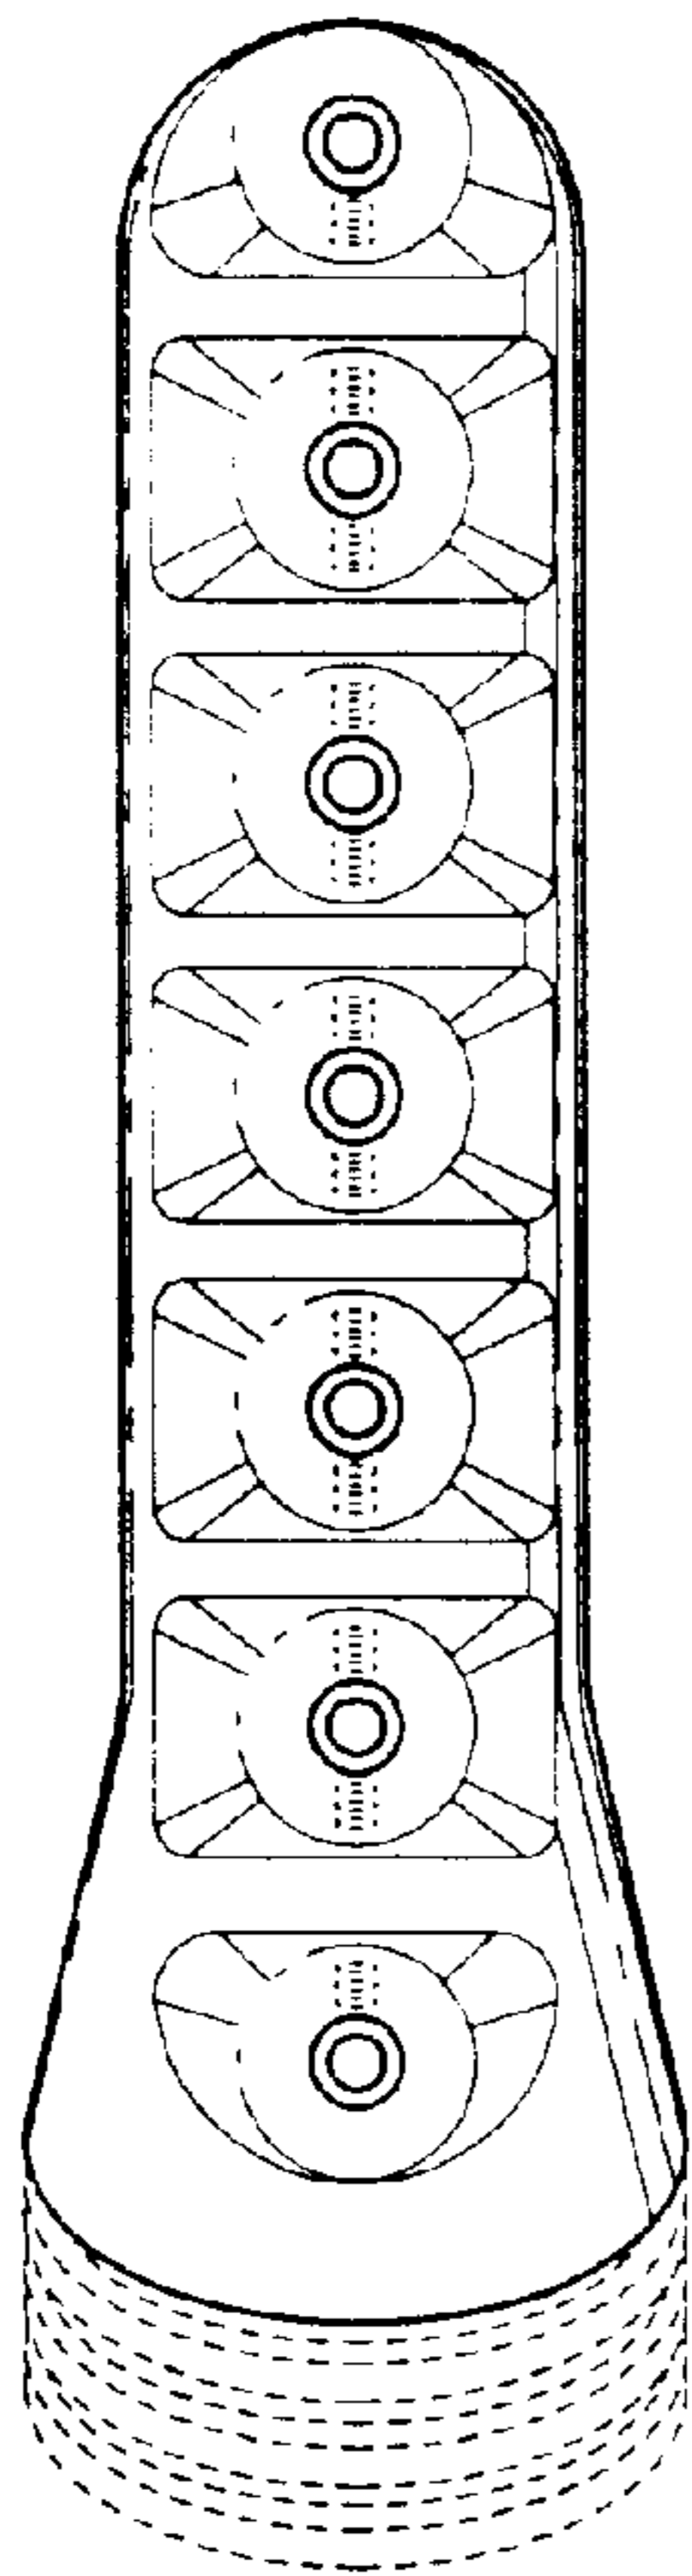

FIG. 4
- FIG. 4 is a front elevational view thereof;